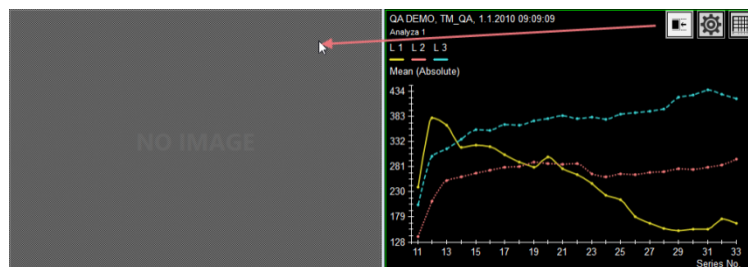

Figure 384 – Linking left segment with analysis chart
2. Drag the mouse cursor over a segment to be linked. The segment will be highlighted (see Figure 384).